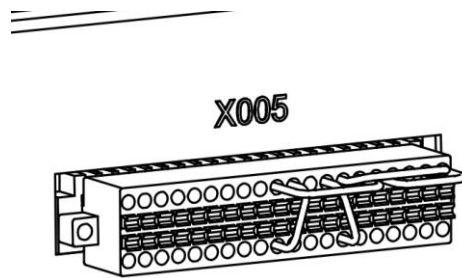

Figure 5-7 System short circuit module
Step4.Confirm that the system short circuit module of the control cabinet is connected normally (X005 in Figure 5-7 is the state of normal connection).